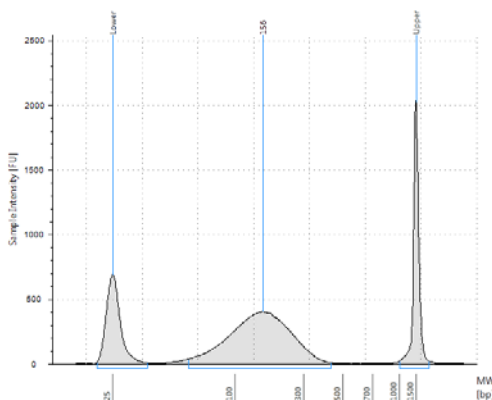

Figure 4 Analysis of sheared DNA using a D1000 ScreenTape.
- 5 Verify that the electropherogram shows an average DNA fragment size of 150 to 200 bp. A sample electropherogram is shown in Figure 4.